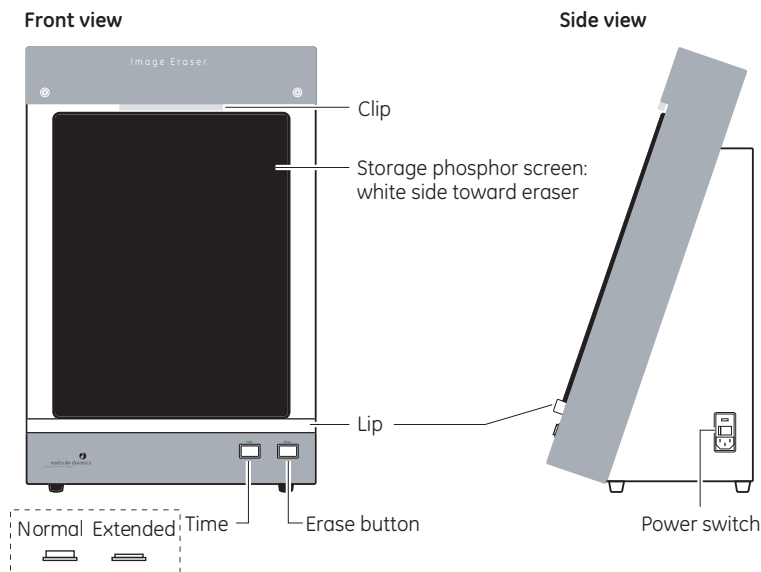

Fig 5-1. Erasing the storage phosphor screen.
- 2 Place the screen on the Image Eraser as shown in fig 5-1. Rest the screen on the lip of the Image Eraser. To erase two small screens at once, suspend an unmounted screen from the clip at the top of the Image Eraser.
- 3 Set the eraser time by pressing the **Time** button. Fig 5-1 shows the button positions for Normal (out) and Extended (in). Select—